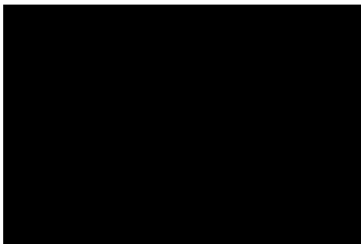

Figure 3
- Securely tie the cable to the previously installed support by aluminum wire. The location is shown as figure 3.